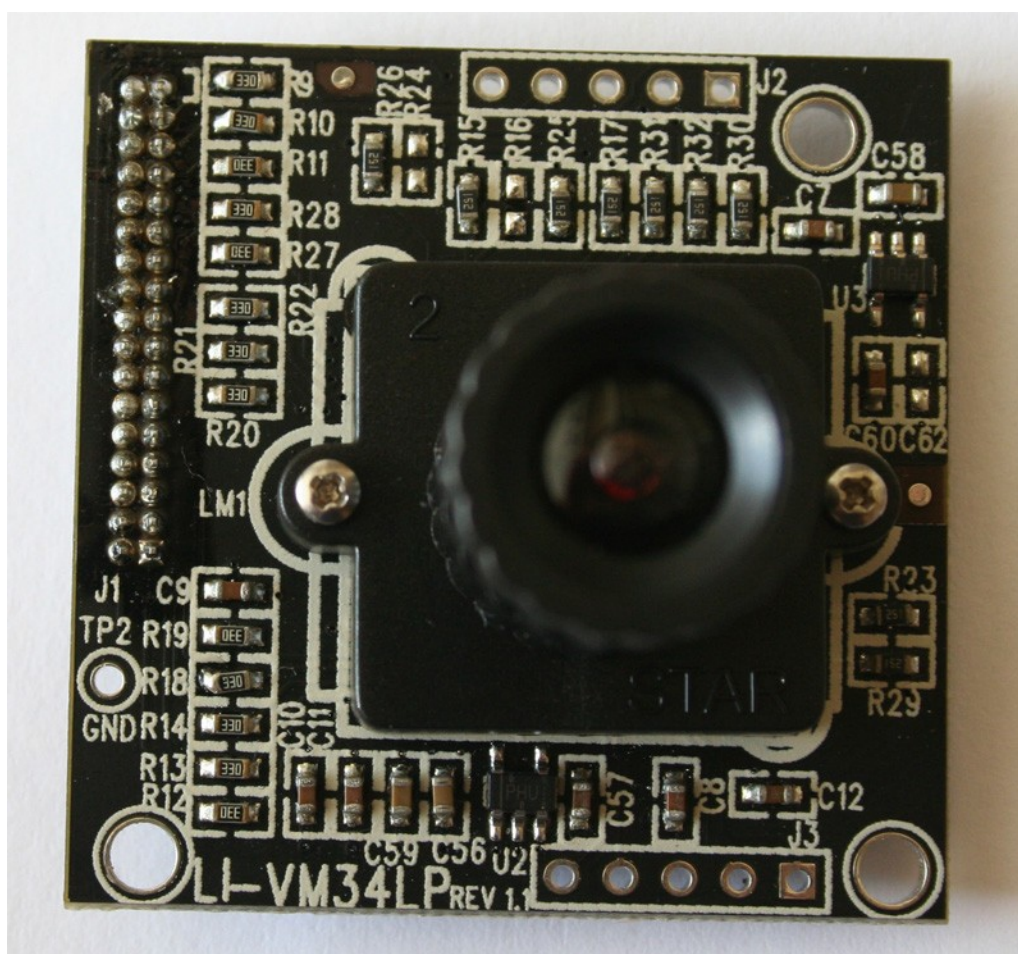

Figure 13. WVGA Camera Board
**1.2.5.7 WVGA Global Shutter Camera Board, see Figure 13**